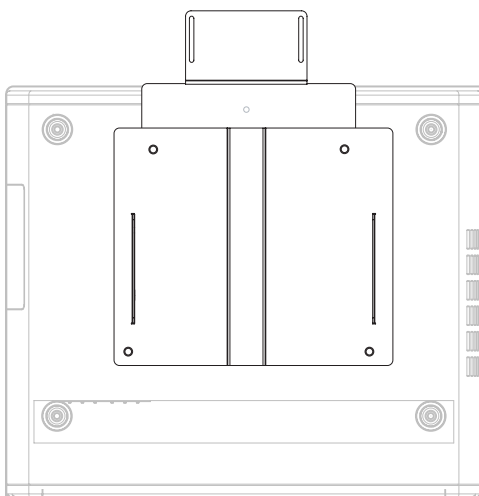

Figure 3-8. Vision 70/CineWide with Anamorphic Lens Base Plate and Ceiling Mounting Plate - Bottom View
4. Secure the CineWide base plate (and ceiling mounting plate, if needed) to the projector with the four, M6x16mm screws and washers provided with the CineWide lens base plate. See Figure 3-8.